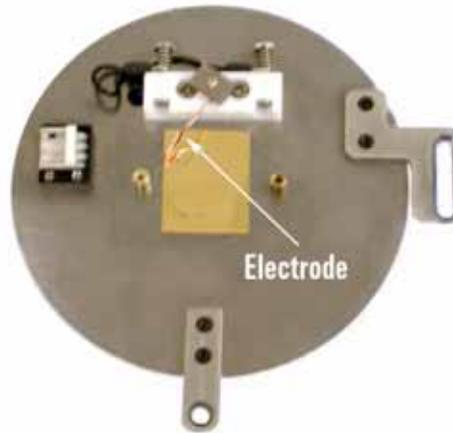

Figure 81 Sample on plate with electrode attached
electrode under it (Figure 81). Connect the electrode to the sample, ensuring good contact.
- 3 Attach an electrode from the sample plate to the sample. A length of copper wire works well as the electrode. Lift the spring-loaded electrode clip on the sample plate and insert the electrode under it (Figure 81 on page 101). Connect the electrode to the sample. Check the continuity between the working electrode contact and sample to ensure that a proper connection is achieved.